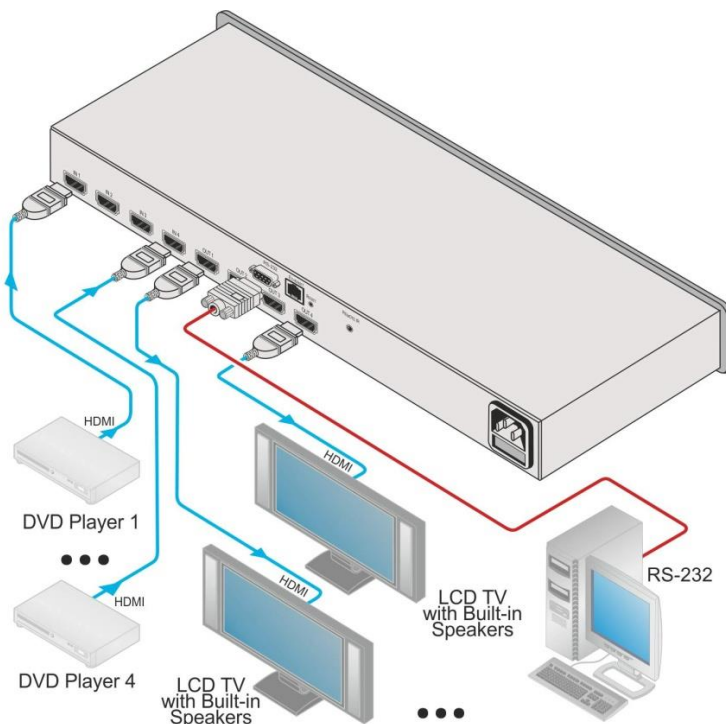

Figure 3: Connecting the VS-44HN 4x4 HDMI Matrix Switcher
**To connect the VS-44HN 4x4 HDMI Matrix Switcher as illustrated in the example in Figure 3:**
4. Connect the device to the mains electricity (not shown in Figure 3).